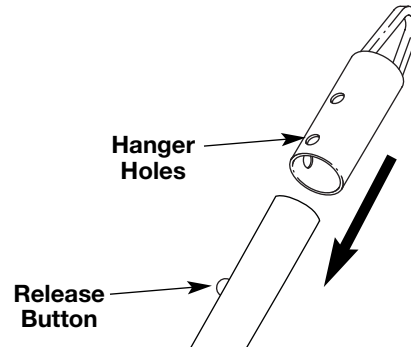

Fig. 10
1. Place the hanger on the end of the attachment and slide down until it touches the release button (Fig. 10).